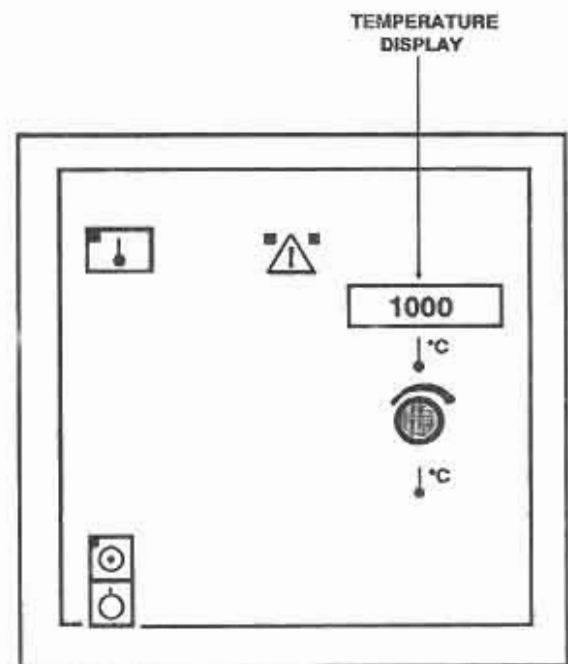

Figure 3-12. Temperature sensor calibration display (1000).
- i. Adjust resistor "R40" until the temperature display indicates "1000" (fig 3-12).
- (1) Lift the control housing slightly upward to release the latch and then lower it.
- (2) Open the storage compartment door.
- (3) Twist the screw located in the lower right corner to lock the control housing.
- (4) Close the storage compartment door.